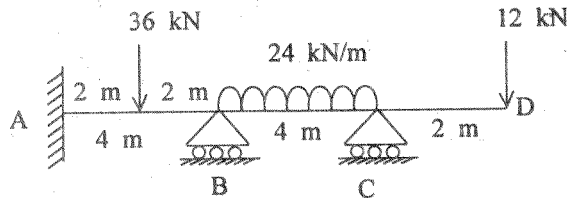

Fig. 4
12. Analyse the continuous beam, shown in Fig. 4, using moment distribution method. Also draw the bending moment and shear force diagrams. EI is uniform.